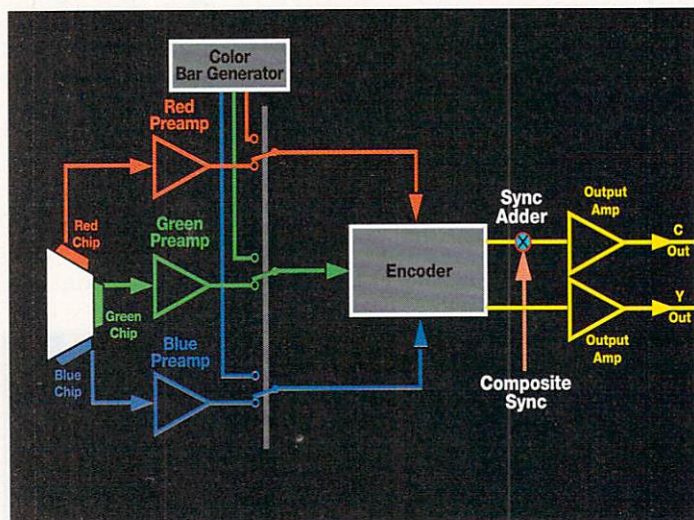

Figure 4
There are two popular videotape formats that support Y/C signal operation: S-VHS and Hi8. Figure 4 shows a block diagram for a camera with Y/C video output signals. Two cables (that can be contained within one sheath) are used to convey a complete picture. One carries luminance (Y) and the other chrominance (C).